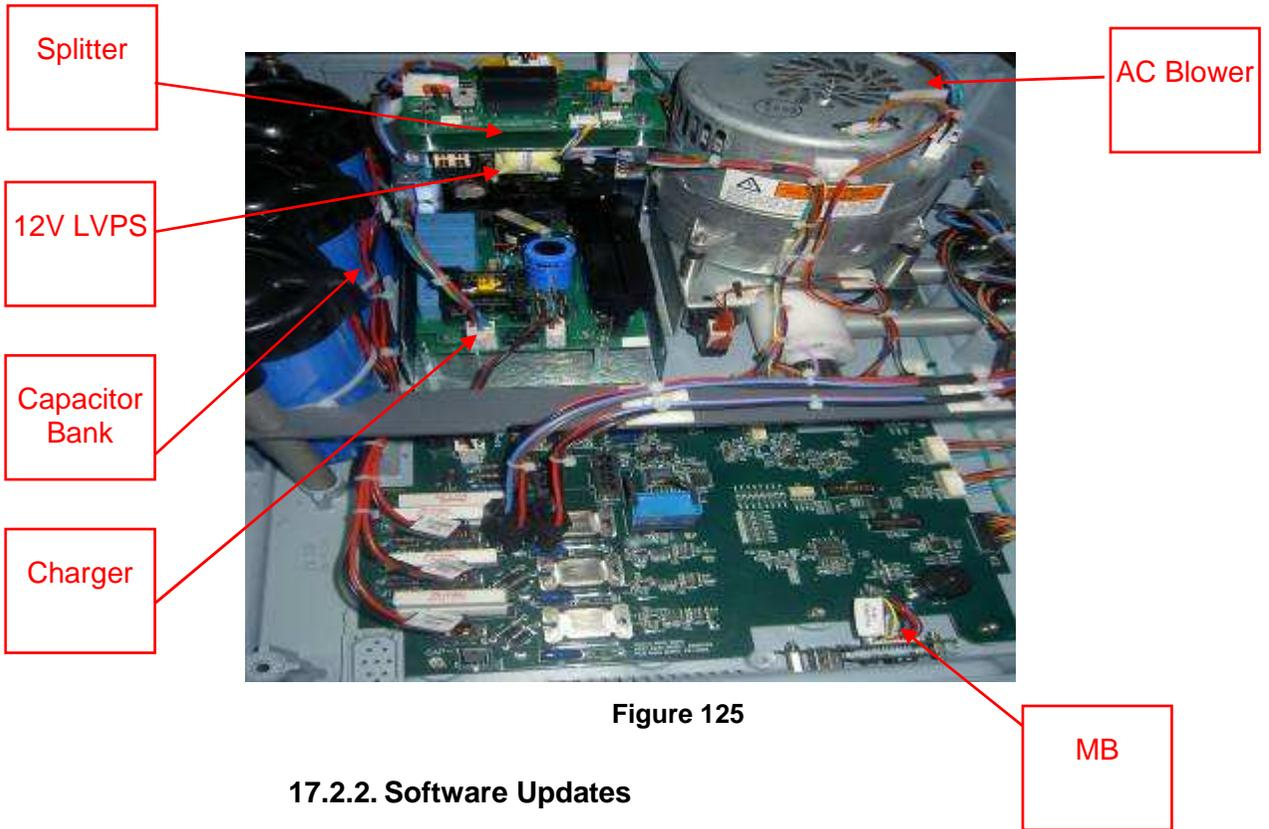

Figure 125
3. Different Module Layout inside the machine (Figure 125)